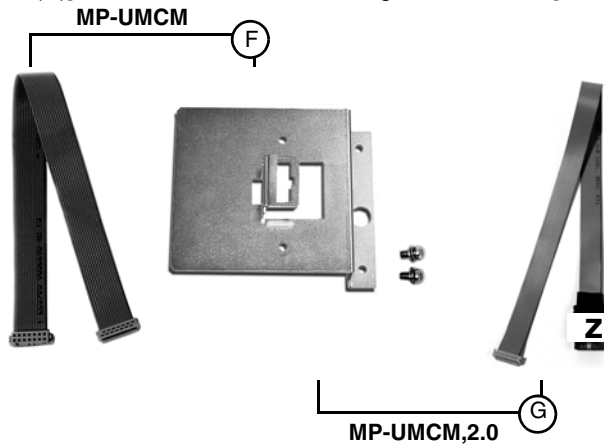

Fig. 3
For this you will additionally require the mounting set MP-UMCM,2.0 [see Fig. 3 (G)]. You can also use the mounting set MP-UMCM [see Fig. 3 (F)].